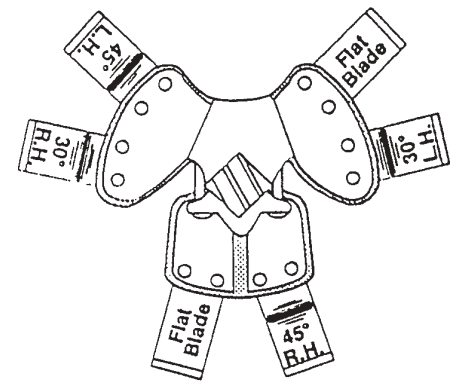

Figure 2
1. Starting with the L.H. Rotor Assembly (above) with blades assembled as in figure 2, place a 4-Blade Rotor Half (RB-44) in position on top of the shaft (hub of rotor to the right). Position center of rotor approximately 6" from inside of housing end. Insert 3/4" carriage bolts with heads up and attach 2-Blade Rotor Half (RB-42) as shown in figure 1. Tighten into place.
2. Rotate shaft 1/4 turn backward (top blade toward you) and position 4-Blade Rotor Half (RB-44) B with blades assembled as in Figure 2 (Hub of rotor to the right). Insert 3/4" carriage bolts with heads up and attach 2-Blade Rotor Half (RB-42) as shown in figure 1. Tighten into place 12" from center to center of first rotor (see above).
**NOTE:** All rotors and blades are mounted as shown in figure 2 except the last rotor. The blades are mounted the same on the last rotor, but the hub is reversed as explained in #4. RH and LH blades are insignificant as long as the blades are mounted opposite each other as shown in figure 2. (Blades are not stamped RH or LH.)